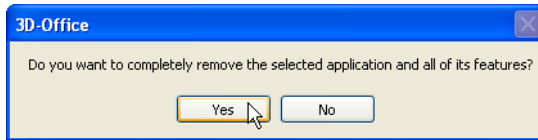

Figure 1-4. Remove 3D-Office?
2. Press **Yes** at the confirmation (Figure 1-4).